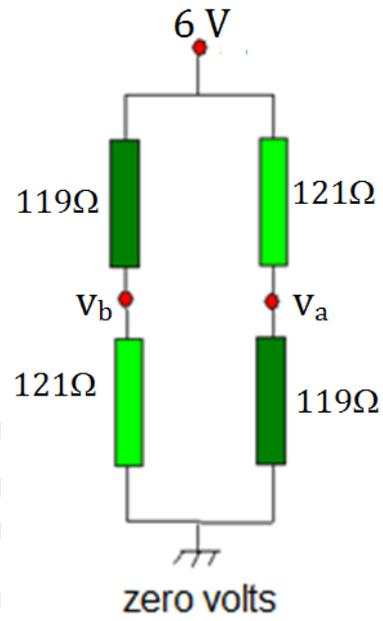

Figure Q3d
- (d) Calculate the potential difference ( $v_b - v_a$ ) in figure Q3d. **(8 marks)**